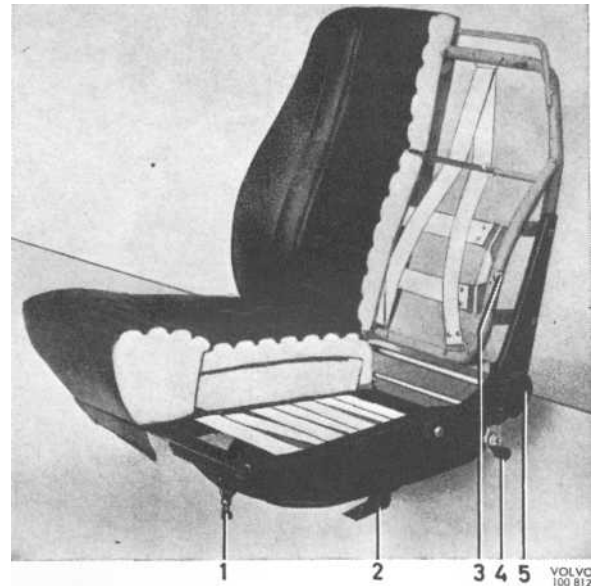

Fig. 64. Front seat
1. The inclination of the seat is adjusted with the eyebolt (1, Fig. 64) at the front edge of the seat. Slacken the adjusting screw and adjust the eyebolt to the desired position.
2. The height of the seat is adjusted by attaching the rail in a suitable hole in the bracket (2).
3. The lumbar support is adjusted with the screw (3). On a number of earlier vehicles with lumbar support where the adjusting device does not have a countersink, the adjusting screw can most easily be found by pressing the upholstery at the adjusting screw hole slightly downwards and backwards.